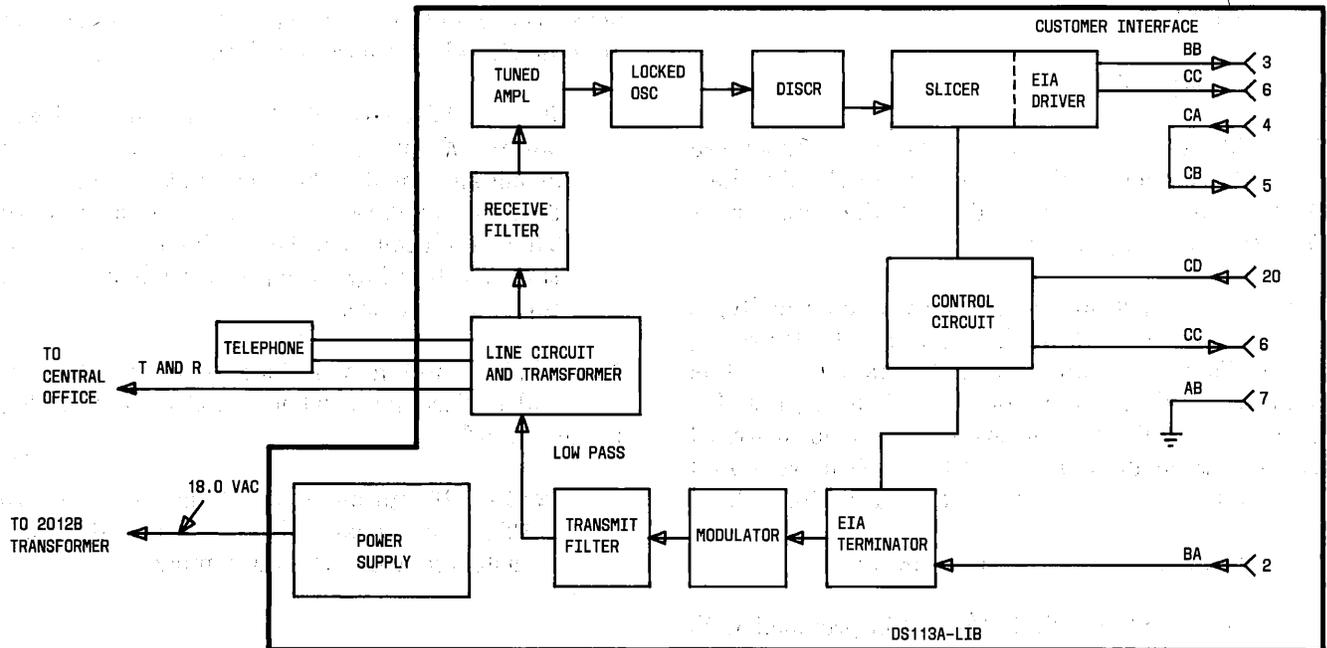

Fig. 4—Block Diagram of DS113A-L1B
4.01 DS 113A-L1B is an originate-only set capable of transmitting and receiving low-speed full-duplex data over the switched telephone network. Refer to Fig. 4 for a simplified functional block diagram of the data set.